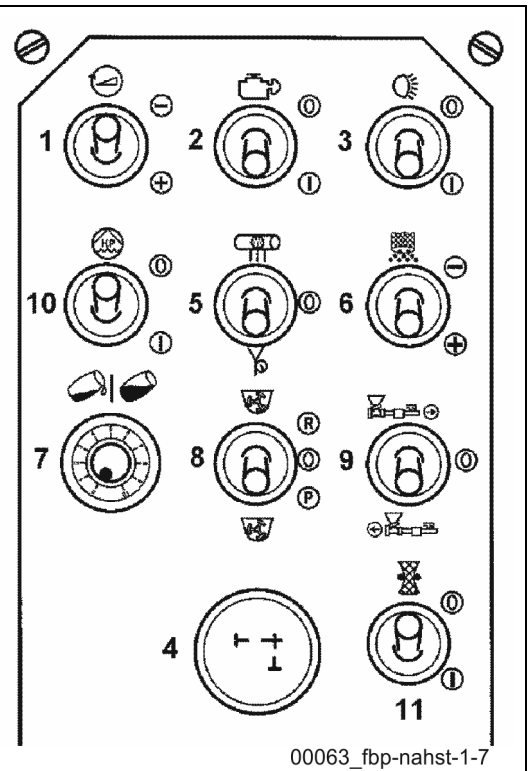

Fig. 440 Local control unit for a truck mixer pump
1 For truck mixer concrete pumps (FBP) a selector switch (11) (**Fig. 440**) on the local control unit serves the same purpose.